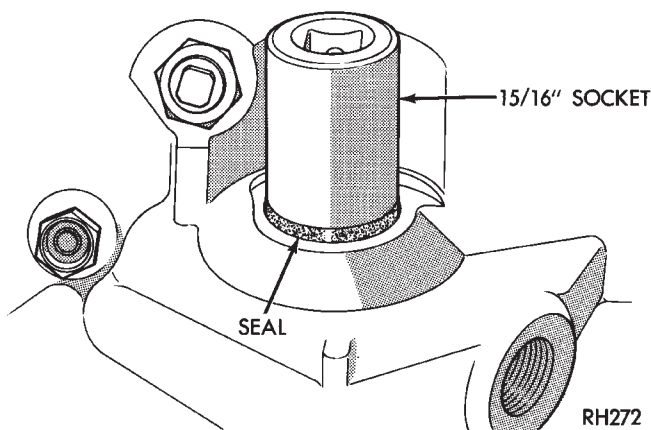

Fig. 16 Installing Manual Lever Shaft Seal
(5) Install accumulator inner spring and accumulator piston. A small amount of petroleum jelly can be used to hold piston in bore.
(6) Place valve body manual lever in low (1 position) so ball on park lock rod can be installed in sprag.
(7) Lubricate shaft of manual lever with petroleum jelly. This will ease inserting shaft through seal (in case).
(8) Lubricate seal rings on solenoid case connector with petroleum jelly.
(9) Position accumulator piston outer spring on valve body.
(10) Raise valve body and work end of park lock rod into and through sprag. Use screwdriver to align sprag if necessary.
(11) Align accumulator springs, manual lever shaft and solenoid case connector. Then seat valve body on case and install one or two bolts to hold valve body in place.
(12) Tighten valve body bolts alternately and evenly to 11 N•m (100 in. lbs.) torque.
(13) Install new fluid filter on valve body. Tighten filter screws to 4 N•m (35 in. lbs.) torque.
(14) Install new manual lever shaft seal in case if necessary. Use 15/16 deep well socket to seat seal (Fig. 16).